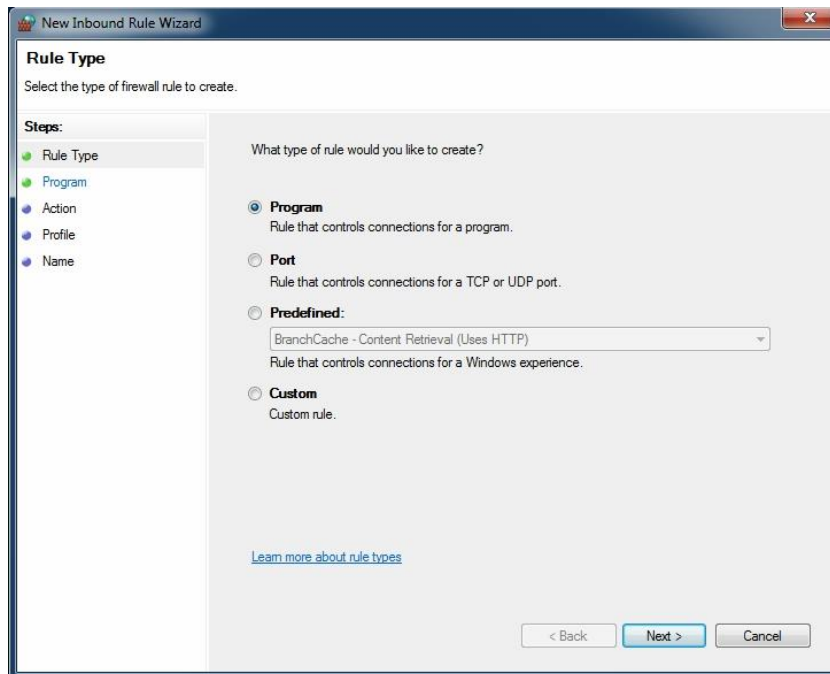

Figure 2-11 Windows Firewall – Advanced Security New Rule: Type
Step 6: The “New Rule” process will begin with the RULE TYPE menu as shown in Figure 2-11.